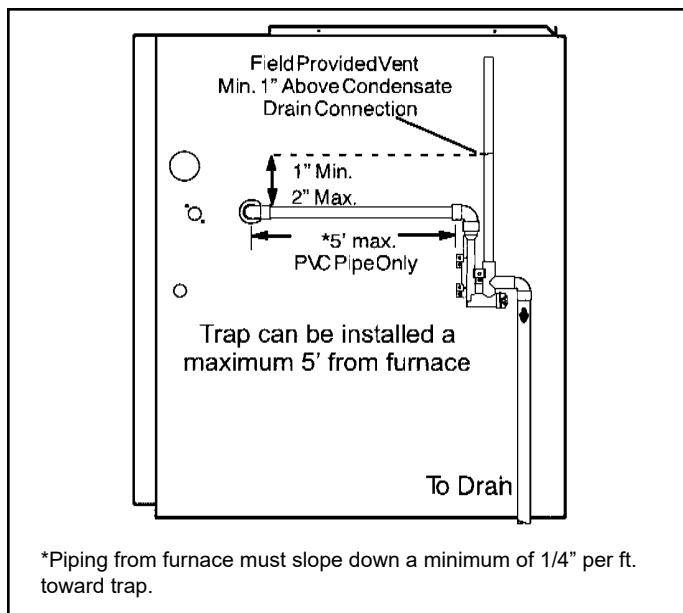
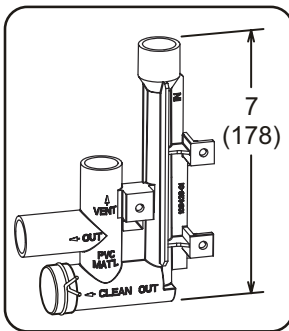

Figure 53. Condensate Trap Locations
Figure 59. Trap / Drain Assembly Using 1/2" PVC or 3/4" PVC
This unit is designed for either right or left side exit of condensate piping in upflow applications. In horizontal applications, the condensate trap must extend below the unit. An 8" service clearance is required for the condensate trap. Refer to Figure 52 and Figure 53 for condensate trap locations. Figure 59 shows trap assembly using 1/2" PVC or 3/4" PVC.
3. Install the cap over the clean out opening at the base of the trap. Secure with clamp. See Figure 59.
4. Install drain trap using appropriate PVC fittings, glue all joints. Glue the provided drain trap as shown in Figure 59. Route the condensate line to an open drain. Condensate line must maintain a 1/4" downward slope from the furnace to the drain.
Upflow furnace (Figure 53) - In upflow furnace applications the field provided vent must be a minimum 1" to a maximum 2" length above the condensate drain outlet connection. Any length above 2" may result in a flooded heat exchanger if the combined primary drain line were to become restricted.